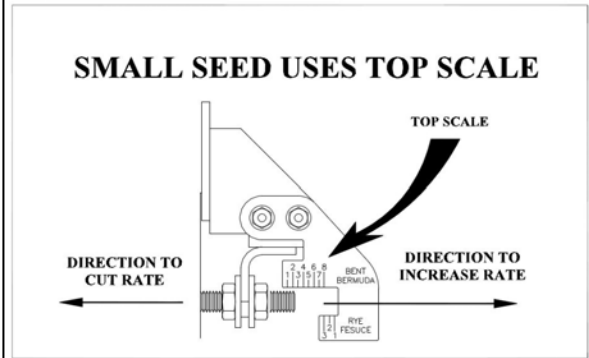

Figure 5b. Rate Adjustment
- rotate bracket in order to extract shaft further (Figure 5b)